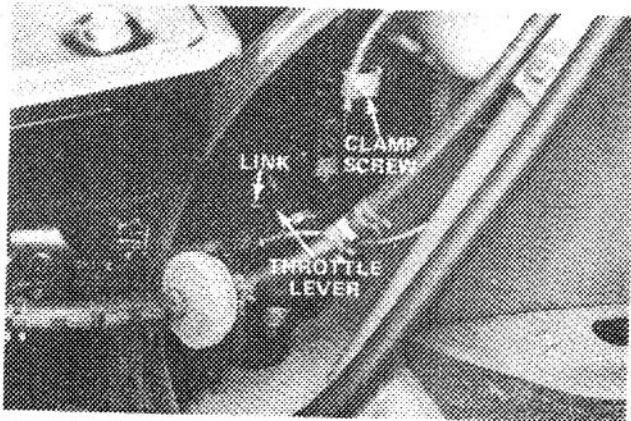

Figure 27
2. Move remote control lever to CHOKE position and check the position of the choke butterfly; it should be fully closed (Fig. 27).
3. Move remote control lever to FAST position. The butterfly should be in the fully open position (Fig. 27).
2. Loosen the throttle cable clamp screw (Fig. 27) and move the control cable casing and wire until the throttle lever touches link.